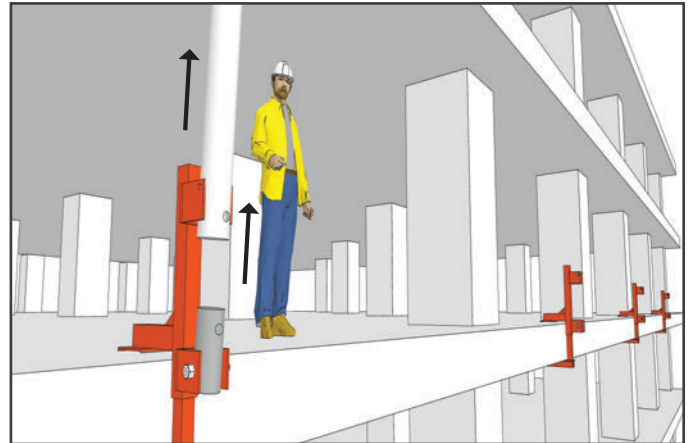

Fig. 10
1. From 2 floors above bracket level, lower (2) tag lines and attach to eye nuts on top of pole.
2. Slowly lift pole into vertical position above bracket and swivel coupler. (see figure 10)